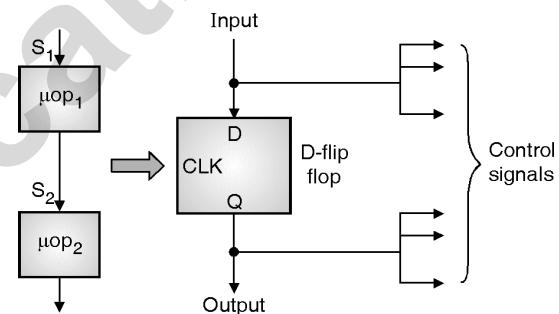

Fig. 9.7.2 : Use of D flip flop as a delay element between two sets of control signals
- A flipflop is made to give output logic '1' after the specific event or in a t-state in sequence and the outputs of these flipflops are used to generate control signals or the micro-instructions i.e. two operations that require a delay of 1 t-state between them are separated by a D flipflop between them. Fig. 9.7.2 shows this implementation.